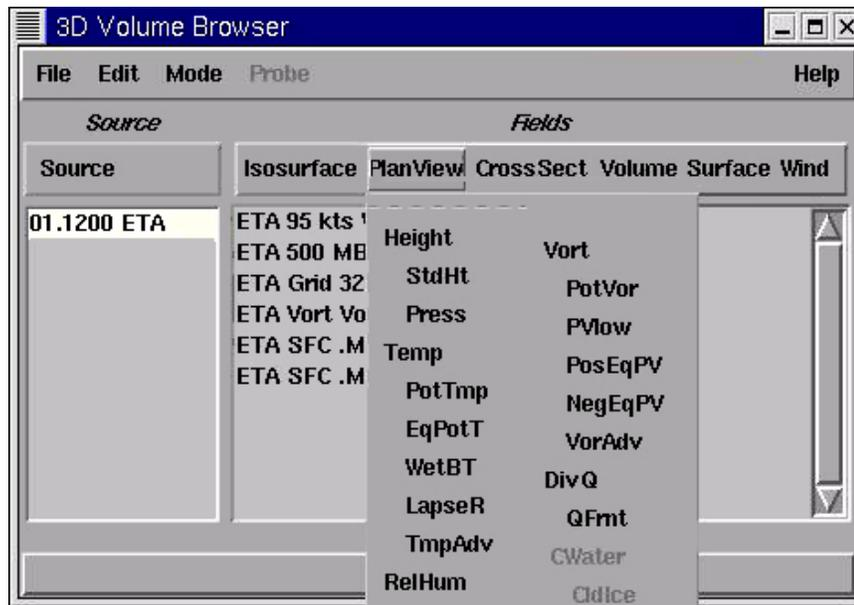

Figure 34. The Volume Browser - Plan-View Pull-Down Menu Showing Choice of Fields to Display.
Once a source is selected, the available data fields are listed in the Rendering Techniques Pull-Down Menus, see Figure 34. Related data fields are grouped together in these menus.
To display a field as a product, (1) decide on a rendering technique, (2) select that rendering technique pull-down menu, and (3) click on the desired field from the pull-down menu using Mouse Button 1. A product name appears in the Product List. See Figure 34.